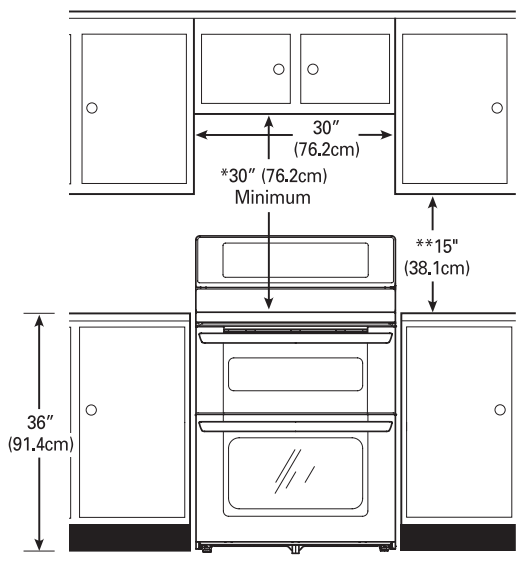

FIGURE 2
**MINIMUM DIMENSIONS (Figure 2)**